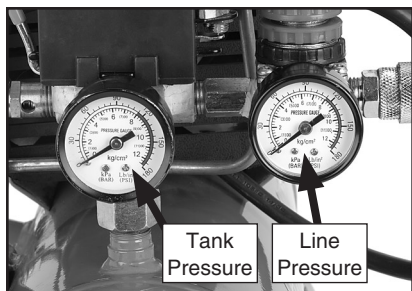

Figure 6. Pressure gauges.
7. Check the tank pressure gauge (Figure 6) to see that the tank pressure climbs to approximately 115-120 PSI (around 8 BAR), then automatically turns **OFF**.
The tank pressure is displayed on the left pressure gauge, and the air to be delivered to the tool (line pressure) is displayed on the right pressure gauge, shown in **Figure 6**.